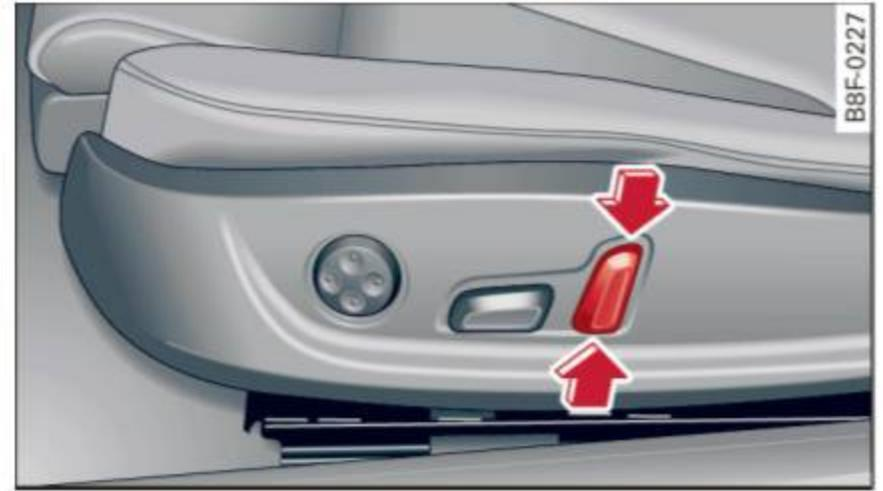

Fig. 57 Front seat: adjusting the power head restraint
- ▶ To adjust the height of the power head restraint*, press the button up/down ⇒ *fig. 57*.